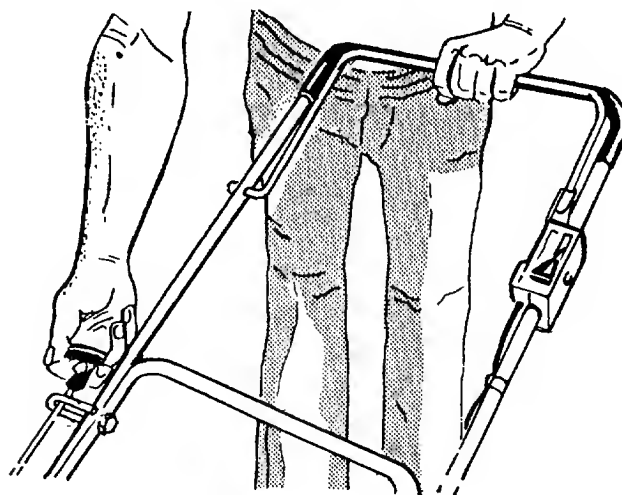

FIGURE 12.
2. Standing behind the unit, depress the blade control handle and hold it against the upper handle as shown in figure 12.